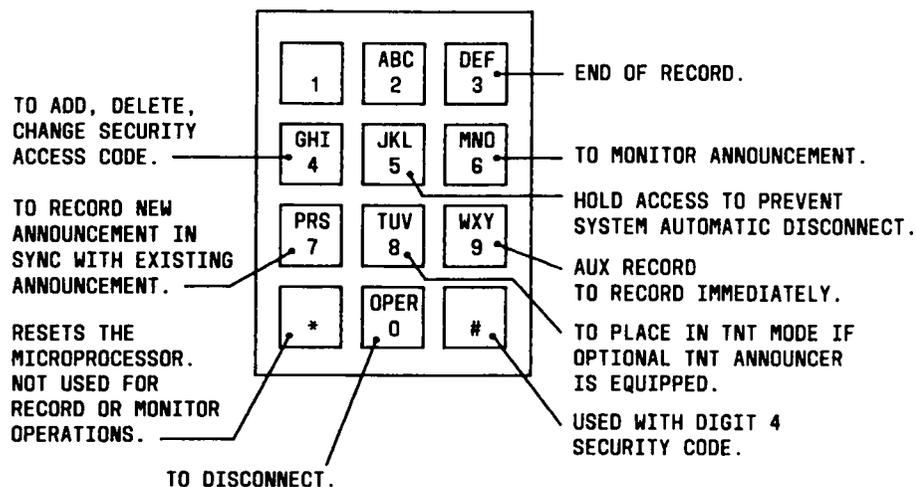

Fig. 6—TOUCH-TONE Dialing Commands‡
3.22 With the HQD 614B recorder/announcer, the attendant can monitor and/or record a VAR wakeup message from the console/terminal. Figure 6 shows the TOUCH-TONE dialing commands used to monitor and/or record a wakeup message. To monitor the recorded message, proceed as follows: